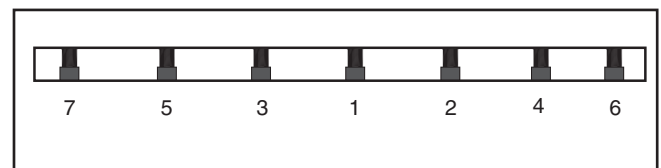

Figure 63. Gib tightening sequence.
8. Rotate the cutterhead to the first knife you started with. Slightly tighten all the gib bolts by following the tightening sequence show in **Figure 63**. Repeat this step on the rest of the knives, then final tighten each gib bolt.